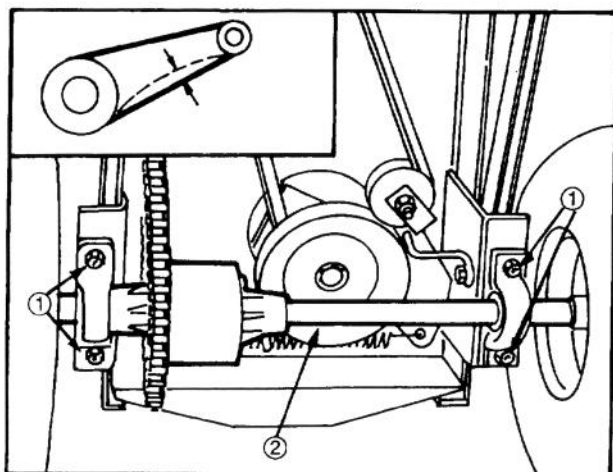

Figure 29
5. Shift transmission into 1st gear and engage the parking brake. Tip rider onto its rear end so chassis is on top of 2" x 4" blocks (Fig. 29). Wheels must be off the floor so axle can be moved.
6. Loosen four flange nuts securing pillow blocks w/ differential axle to the rider frame (Fig. 29). Slide differential axle in proper direction to get correct chain deflection; then tighten flange nuts.
7. Since differential axle must be parallel to rear of chassis, measure distance from center of pillow blocks to rear of chassis (Fig. 29). Difference between the two measurements must not exceed 1/4 inch (6 mm). If difference exceeds 1/4 inch (6 mm), differential axle is not parallel with chassis; therefore it must be readjusted.